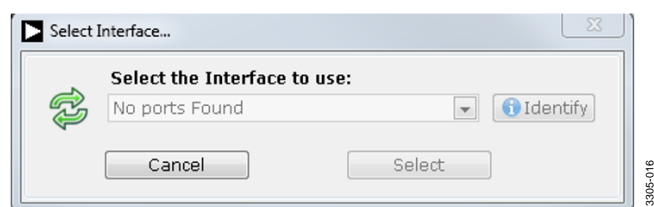

Figure 16. Connectivity Error Alert
2. If the AD7124-8 evaluation system is not connected to the USB port via the EVAL-SDP-CB1Z when the software is launched, a connectivity error displays (see Figure 16). Connect the evaluation board to the USB port of the PC, wait a few seconds, click **Rescan**, and then follow the on-screen instructions.